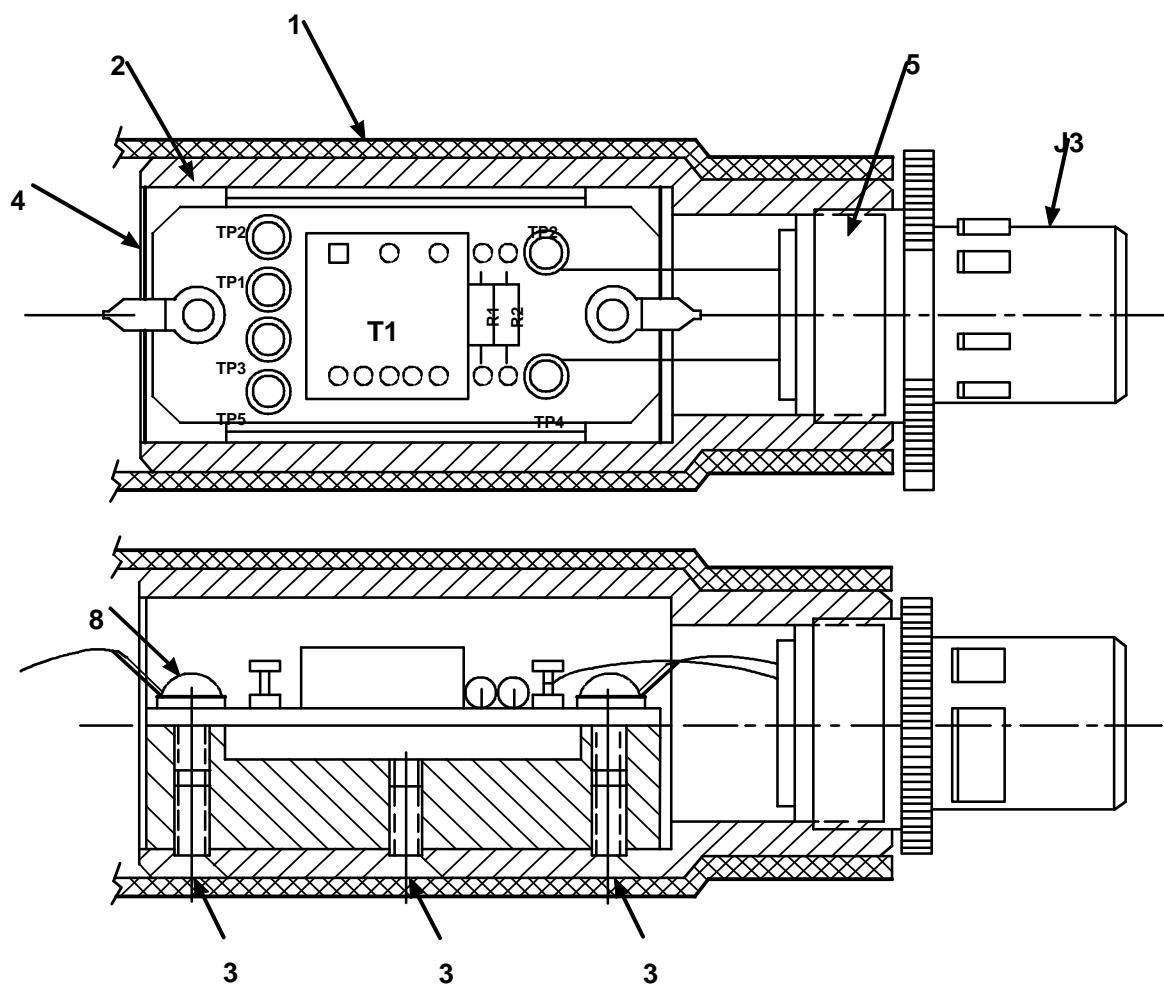

Figure 3-9. 1553 Stub (Part of Power and Data Cable (5-M), P/N 12991852)
3.3.8 1553 Stub Repair Procedures. Refer to Figure 3-9. Assembly and disassembly as follows: